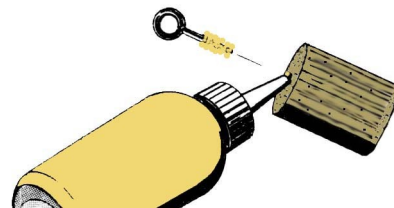

Figure 3
- **Step 7** Use the threads of the screw eye to cut a threaded hole into one end of the balsa bulkhead. Carefully reverse the screw eye out of the hole. Force yellow glue deep into the hole, and coat the screw eye threads with glue, as shown in Figure 3. Reinsert the screw eye into the hole, and set this subassembly aside to dry.